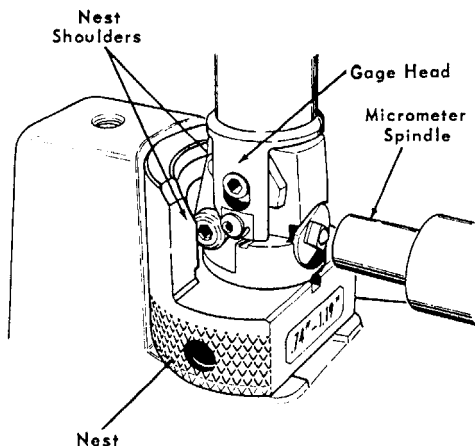

FIGURE 10
9. Be sure the Centralizer Points firmly contact the shoulders of the Nest (see Figure 10). **CAUTION:** If firm contact is not made, expand the Centralizer Points until firm contact is made. See Page 13 for instructions on Adjusting the Centralizer Points.